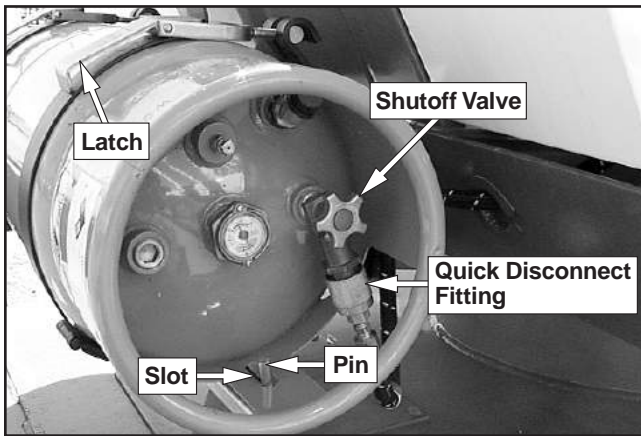

Figure 7.6—LPG Tank
1. Close the shutoff valve (refer to Figure 7.6).